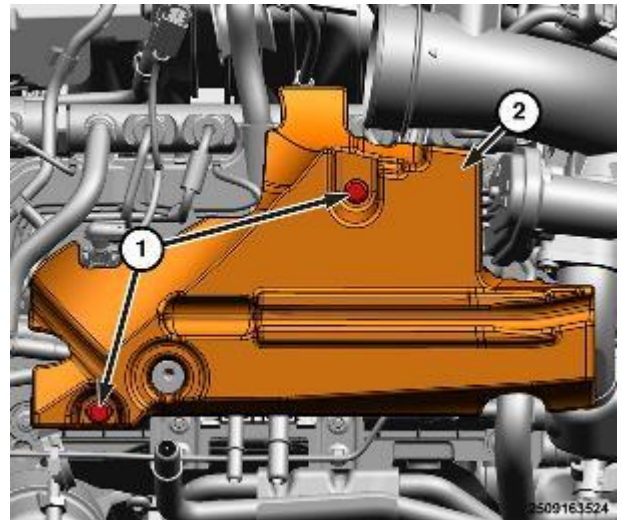

Figure 179 – Left Fuel Rail Cover
14. Remove the left fuel rail cover bolts (1) and the left fuel rail cover (2) (Figure 179).